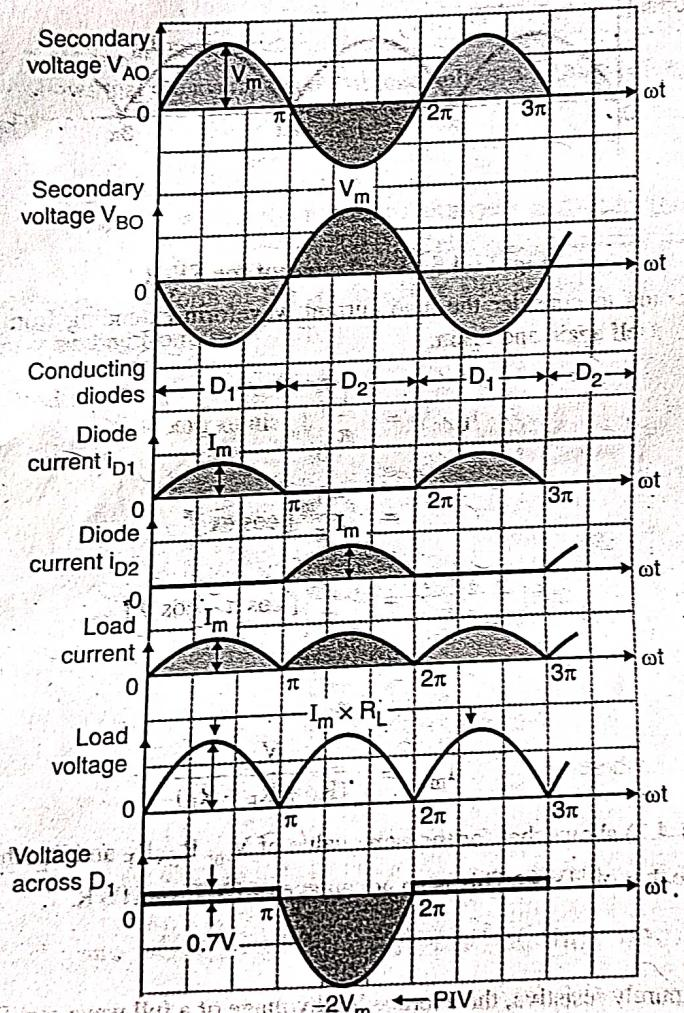

Fig. 11.4.4 : Voltage and current waveforms for a full wave rectifier
- The instantaneous load voltage is positive and approximately equal to V_{AO} . As the load is purely resistive, the load current i_L has the same shape as that of the load voltage. The voltage and current waveforms are as shown in Fig. 11.4.4.
The voltage and current waveforms are as shown in Fig. 11.4.4.